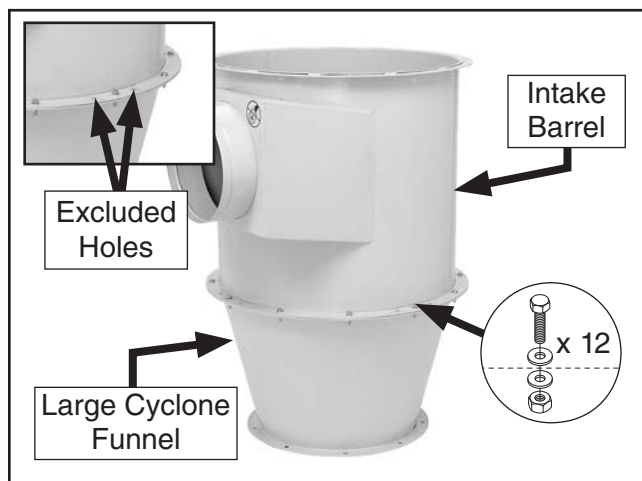

Figure 15. Intake barrel and large cyclone funnel.
12. Connect intake barrel and large cyclone funnel with (12) $\frac{5}{16}$ "-18 x $1\frac{1}{4}$ " hex bolts, (24) $\frac{5}{16}$ " flat washers, and (12) $\frac{5}{16}$ "-18 hex nuts in mounting holes—excluding left and right holes in groups of three (see **Figure 15**).